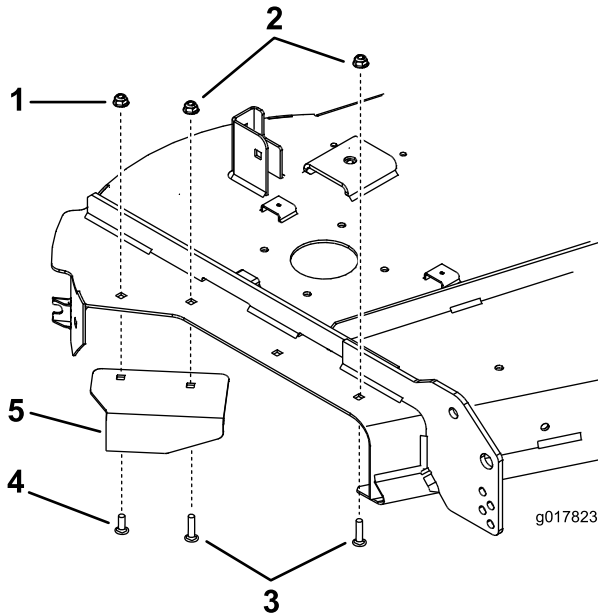

Figure 25
2. Install the existing baffle with the existing bolts and nuts after removing the plate assembly (Figure 25).
3. Install a carriage bolt and flange nut into the front hole show in Figure 25.